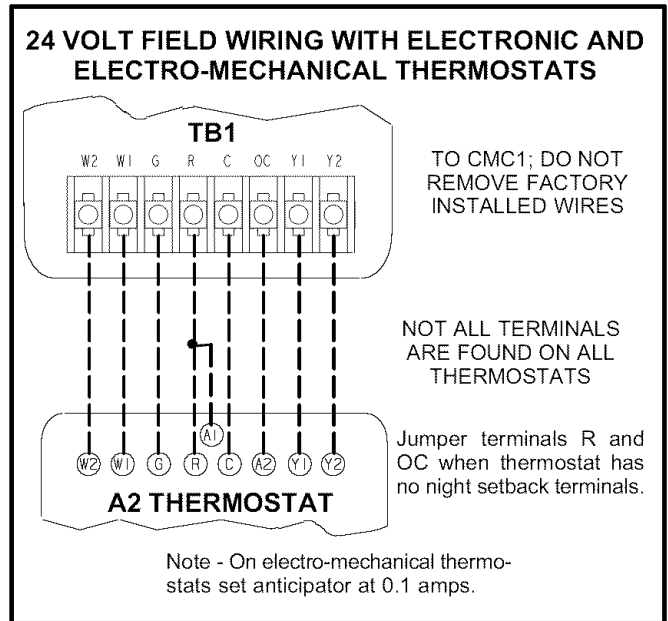

FIGURE 11
- 3- Connect thermostat wiring to TB1 terminal control board on the lower side of the controls hat section. Wire as shown in figure 11 for electro-mechanical and electronic thermostats. If using other temperature control devices or energy management systems see instructions and wiring diagram provided by manufacturer.